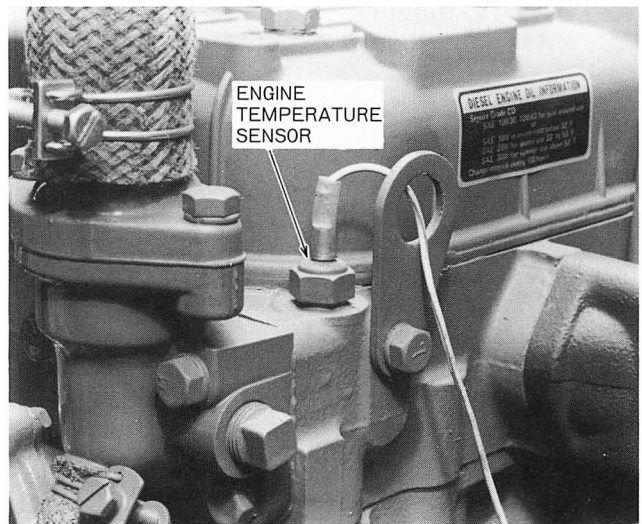

Figure 51 – Thermostat Housing
**Thermostat:** The thermostat is located in the coolant outlet connection in the front of the cylinder head (Figure 51).